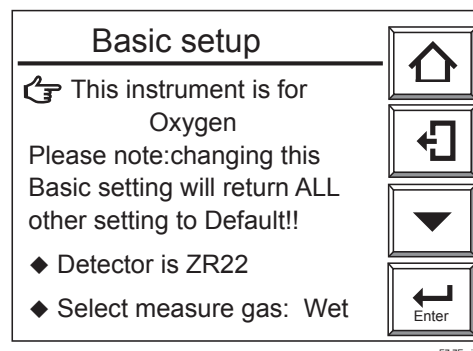

Figure 7.5 Basic Setup
- (5) The Basic setup display shown in Figure 7.5 then appears. Confirm the currently set converter type. If the Humidity Analyzer option /HS was selected at the time of purchase, the converter was set for high temperature humidity use before shipment.
Check that the detector in Figure 7.5 is the one for this equipment.